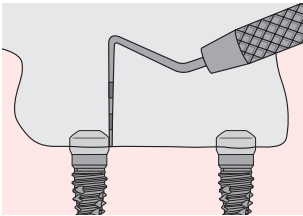

Fig. 1
- (Fig. 1): Determine the correct height for each of the Dalbo® Certain® Abutments by measuring the height of the healing cap above the tissue, **without** curvature, using a probe (1 mm scale). Then subtract this from the overall height of the healing cap and add 1 mm to the result.